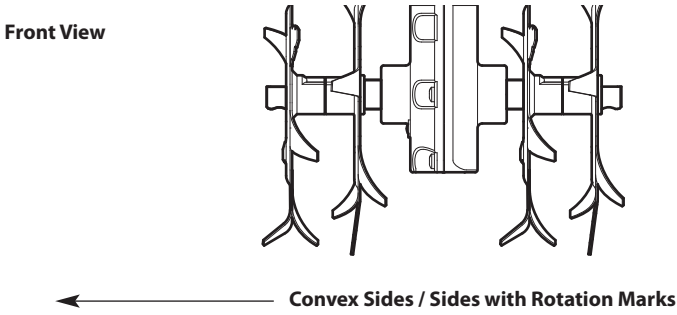

Fig. 11
- **Tine Type A:** Make sure that the convex side of each tine is facing as shown (Fig. 11).
- **Tine Type B:** Make sure the sides with rotation marks are facing as shown (Fig. 11).